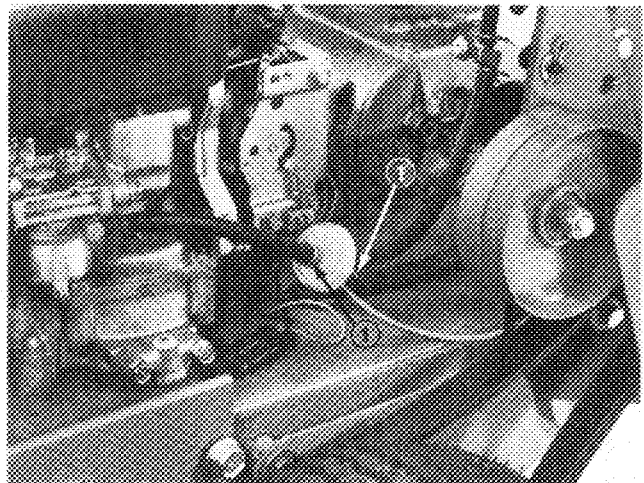

Figure 4
29. Mount throttle control, control module and control panel to upper handle with (4) #10-24 x 1/4" lg. machine screws and locknuts. Use front screw to mount module.
31. Plug remaining wire harness connectors into bridge rectifier (See wiring diagram, page 6) and mount panel bottom to front and back of control panel with (4) #10-16 x 1/2" lg. self tapping screws.
32. Install new fuel lines, fuel filter and shut off valve with (4) fuel line clamps as shown in Fig. 4.